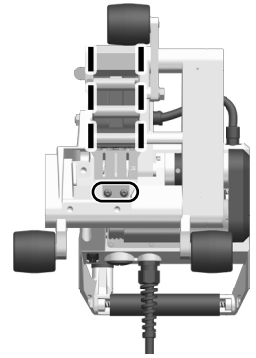

Figure 3
- Loosen the two cylinder screws on the wedge plate slightly (Figure 3). The cylinder screws do not have to be completely loosened
- Align the **hot wedge (15)** so that it is in the middle of the **drive/pressure roller at the bottom (11)**.
- Tighten the two cylinder screws on the wedge plate again (Figure 3).